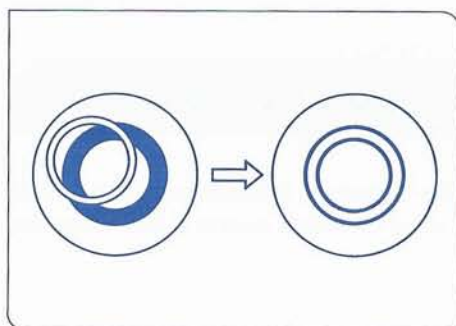

Fig. 55
4. Using the aperture iris diaphragm lever ②, open the aperture iris diaphragm.
8. Use the condenser annulus centering knobs to center the phase contrast attachment in such a way that the bright annulus concentrically overlaps the phase annulus within the field of view. (Fig. 55)